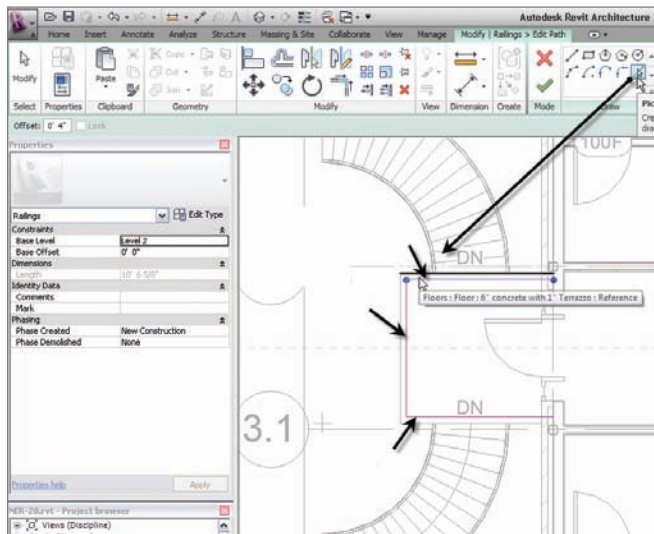

FIGURE 10.52 Adding the railings to the landing
3. On the Draw panel, click the Pick Lines icon, as shown in Figure 10.52.
5. Pick the landing lines to offset in the railing, as shown in Figure 10.52.